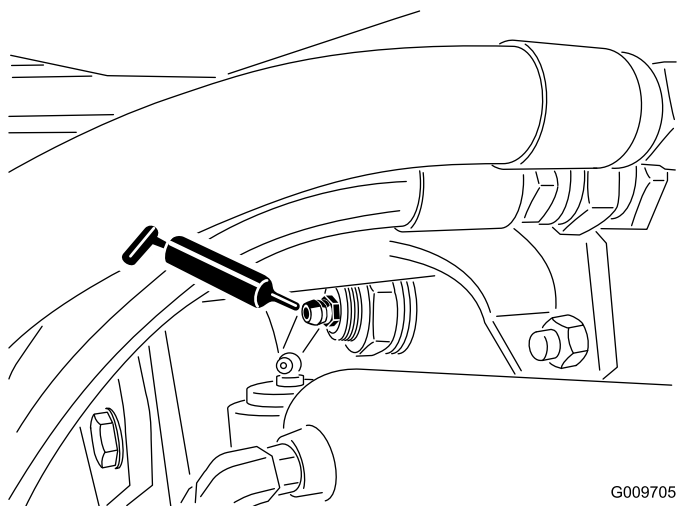

Figure 48
- Rear axle pivot bushings (2) (Figure 48)